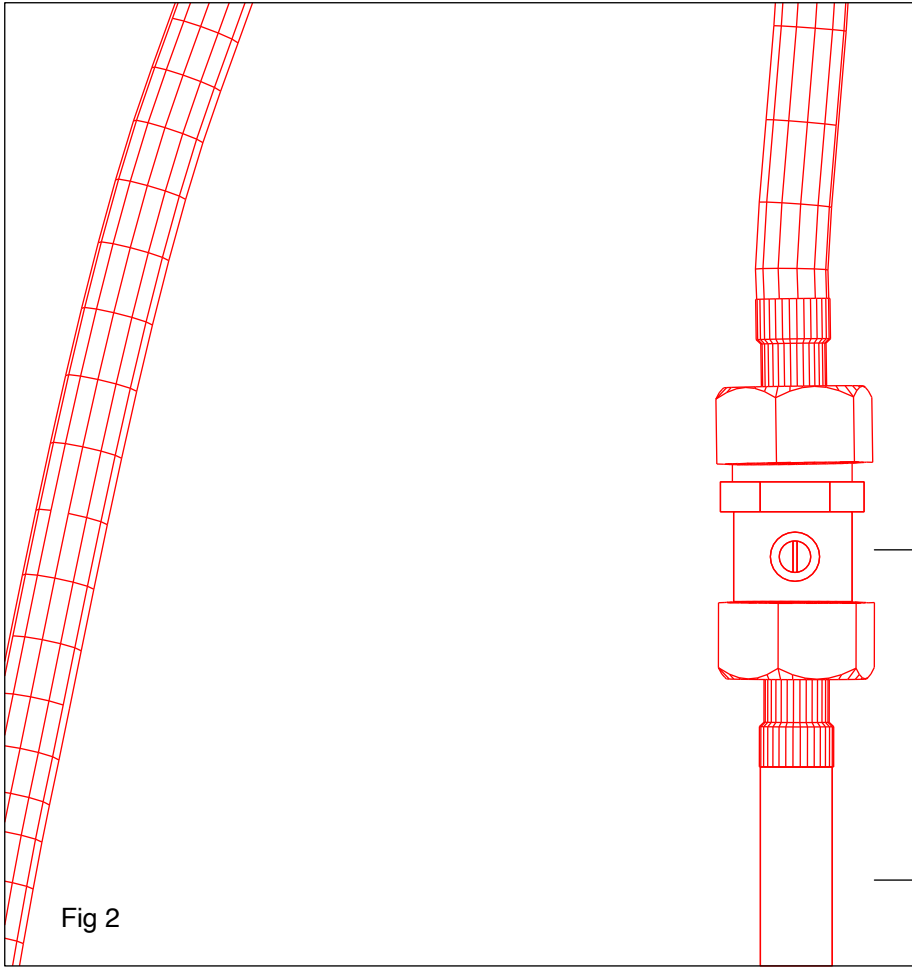

Fig 2
2. We recommend installing the drainage valves above the flexible hose and isolating valve (B - Fig 2) and in a readily accessible position. This allows for easy access should the tap require draining.
3. While the tap is not in use, and should the temperature drop below 32 degrees Fahrenheit (0 degrees Celsius), we advise shutting off the water supply (B - Fig 2) and opening the drainage valve to remove any water from the system (to prevent potential damage caused by frozen pipes).